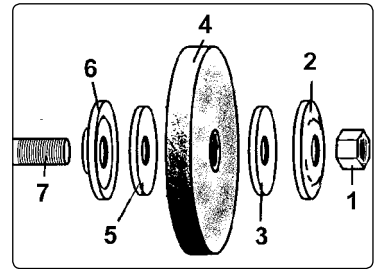

fig.3
- 5.2.4. Remove grinding wheel washer (2), blotter (3), wheel (4), 2nd blotter (5) and washer (6) from main spindle (7).see fig.3.